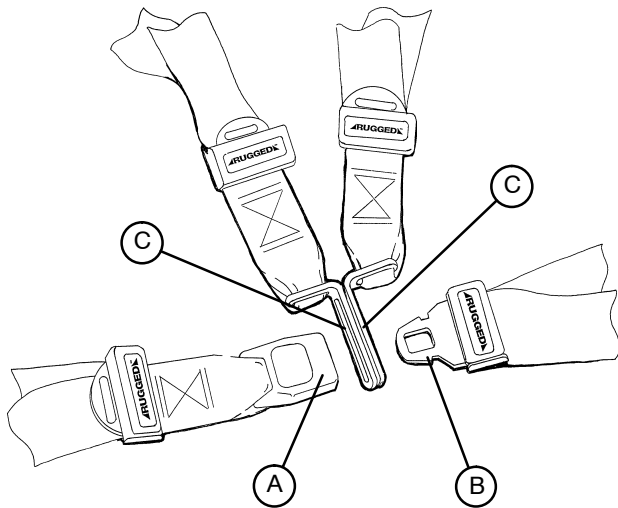

Figure 11 – Buckling the Safety Restraints
To open the restraint, press the red button (A) on the front of the buckle "receiver". This releases the buckle "tang" (B) which can then be pulled out of the receiver (Figure 11).
To close the restraint, push the tang into the receiver until a "click" is heard. When fastening the chest restraint be sure the tang passes through both links (C) on the shoulder strap (Figure 11).